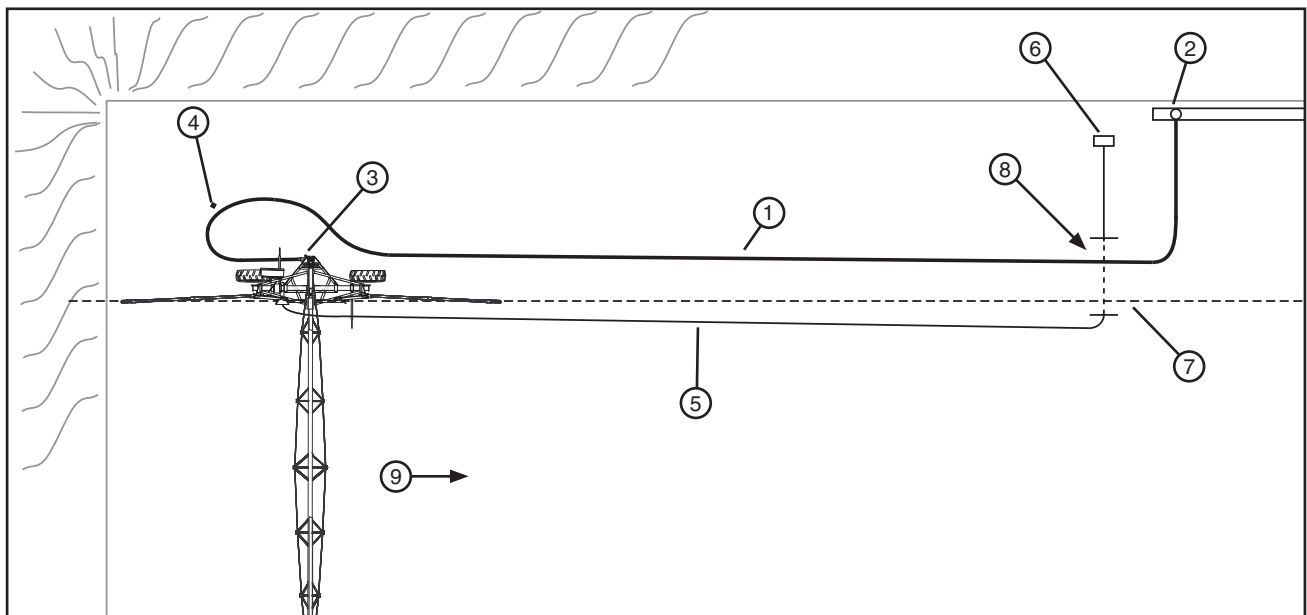

Figure 47-1 1. First Hose 3. Swivel Inlet 5. Electric Cord 7. Furrow Guidance 9. Direction of Travel
1. Connect the first hose to the pipeline shut off valve and linear cart swivel inlet, then latch in place. See figure 47-1.
- Temporarily installing a post approximately 6 ft (1.82 M) behind the linear cart and on the pipeline side, the post will aid in connecting the polyethylene hose to the linear cart inlet. See figure 47-1.
- (a) Position the electric cord far enough away from the hose, so that the hose will not drag over it. To prevent interference between the electric cord, cart tires, furrow guidance system and hose, bury the electric cord in the area where interference will occur or when applicable, position the electrical cord over the top of the hose. See figure 47-1.